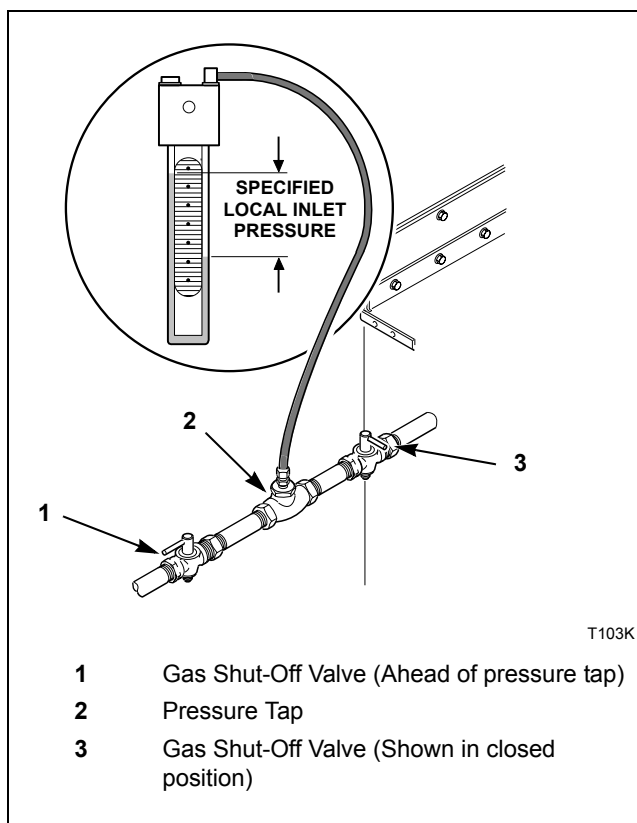

Figure 11
- Disconnect electrical power from tumbler. Close gas shut-off valve to tumbler. Refer to *Figure 11*.
1. Disconnect electrical power from tumbler. Close gas shut-off valve to tumbler. Refer to *Figure 11*.